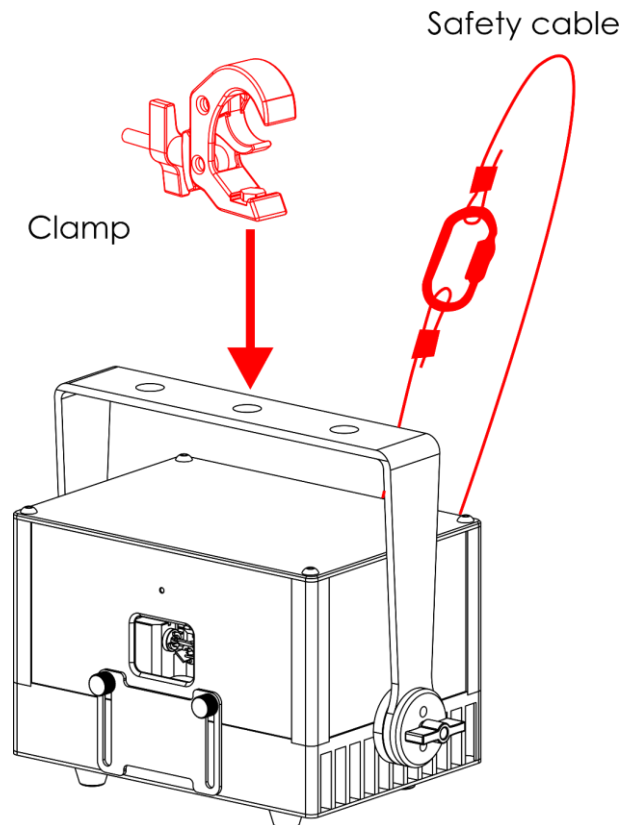

Fig. 11
- 01) Use a clamp to attach the device to the supporting structure, as shown in Fig. 11. Make sure that the device cannot move freely.
- 02) Secure the device with a secondary suspension, for example a safety cable. Make sure that the secondary suspension can hold 10 times the weight of the device. If possible, the secondary suspension should be attached to a supporting structure independent of the primary suspension. Put the safety cable through the **safety eye (18)**, as shown in Fig. 11.